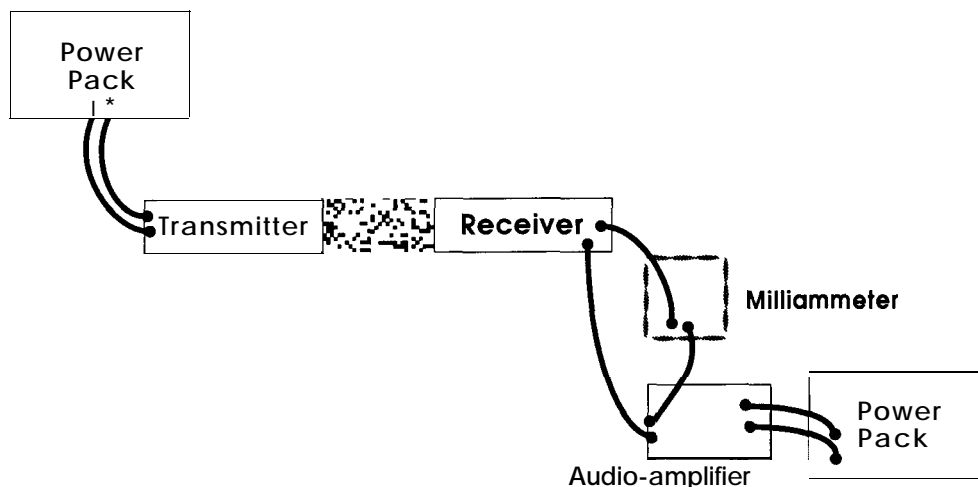

figure 1
- Connect the milliammeter, *if not included in the receiver*, to the microwave receiver and to the input terminals of the audio amplifier. See figure 1.